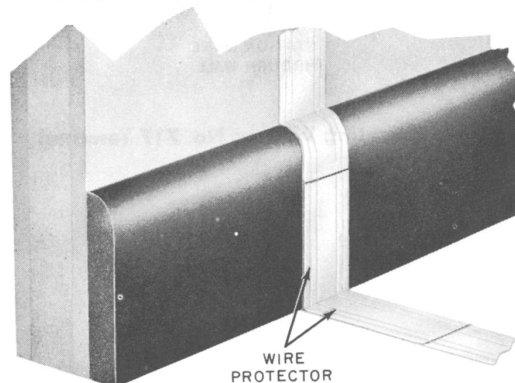

Fig. 16 — B Station Wire Protecting Wire Run
- (1) Wire runs laid across floors should be protected at the baseboard by placing a 6-inch piece of B Station Wire over existing run as shown in Fig. 16.